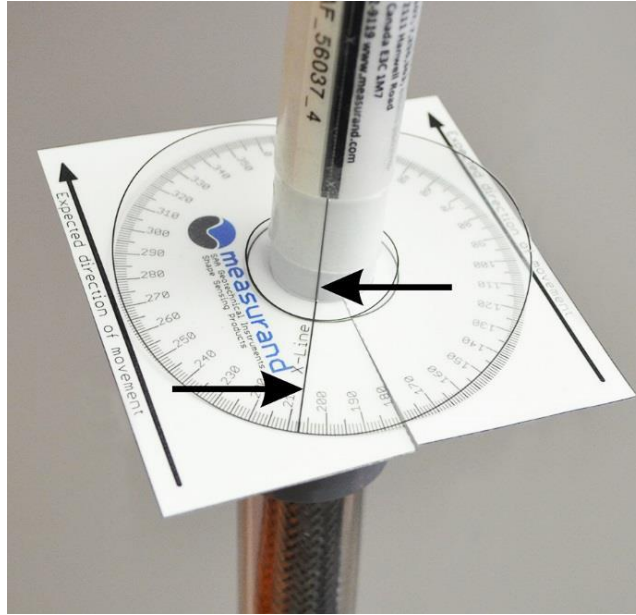

Figure I. 2: X-mark Protractor clear disc marker.
3. Place the clear disk marker (**Figure I. 2**) with the “X-Line” around the PEX on top of the square protractor.